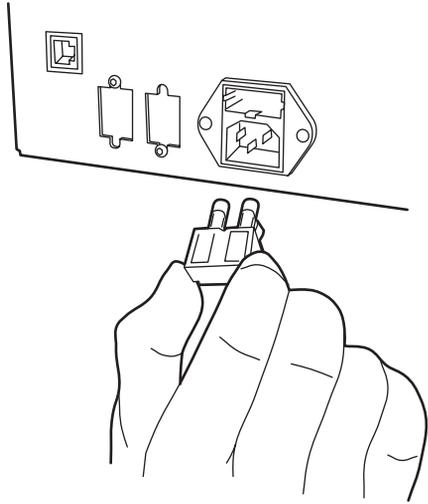

Figure 4-16 Removing and Replacing the Rear Panel Fuses and Fuse Holder
2. Insert your fingers into the fuse holder slots on the rear panel of the detector. Exerting a minimum pressure, pull on the spring-loaded fuse holder and remove it from the rear panel (Figure 4-16).